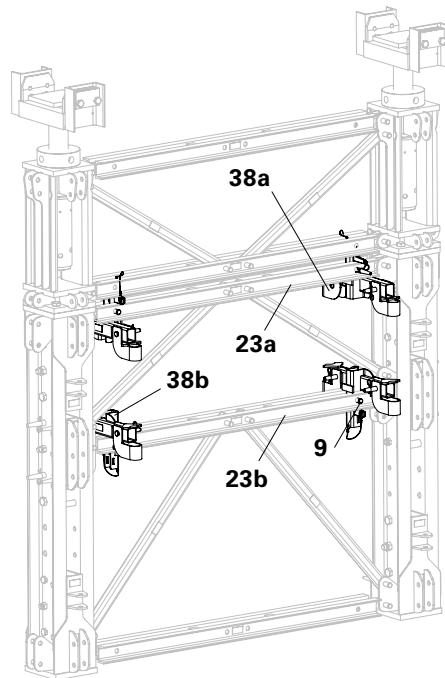

Fig. B6.01a
2. Secure Connectors UP-VST (38) with Fitting Pins Ø 21 mm (9) or PERI Wedge K (40). (Fig. B6.01a + B6.01b)
4. Secure Connectors UP-VST (38) with Fitting Pins Ø 21 mm (9) or PERI Wedge K (40). (Fig. B6.01a + B6.01b)